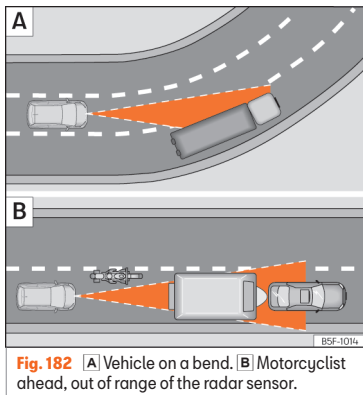

Fig. 182 **A** Vehicle on a bend. **B** Motorcyclist ahead, out of range of the radar sensor.
The ACC may not detect the vehicle in front on a curve, or may regulate the distance from vehicles in other lanes » **Fig. 182 A**.
- Vehicles that are not aligned while driving or that are outside the sensor's detection area, such as motorcycles » **Fig. 182 B**